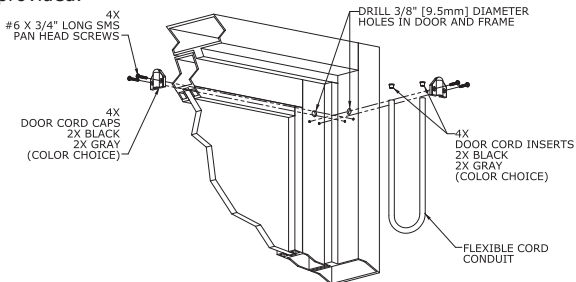

Figure 8
- Drill a 3/8" [9.5mm] diameter hole in the door and frame (hinge side) as shown in **Figure 8**.
- Insert one (1) door cord insert into each end of the flexible cord conduit.
- Position the door cord caps to completely cover each 3/8" [9.5mm] diameter hole and use the cap mounting holes as a template to mark and then drill two (2) 1/8" [3.2mm] pilot holes for mounting.
- e. Insert each end of the (spiral) conduit into the recess of each of the cord caps and mount each cap to the door and frame using a Phillips screwdriver and two (2) #6 X 3/4" long pan head screws provided.